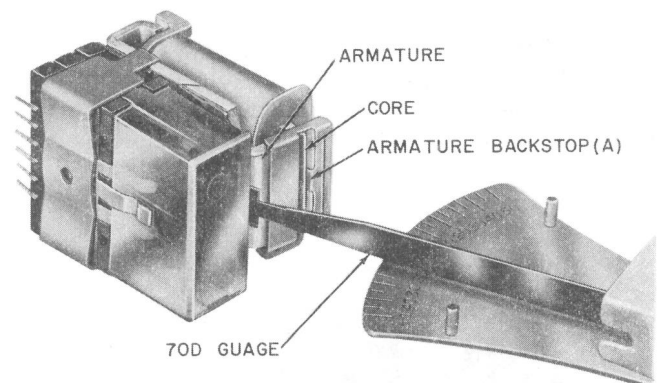
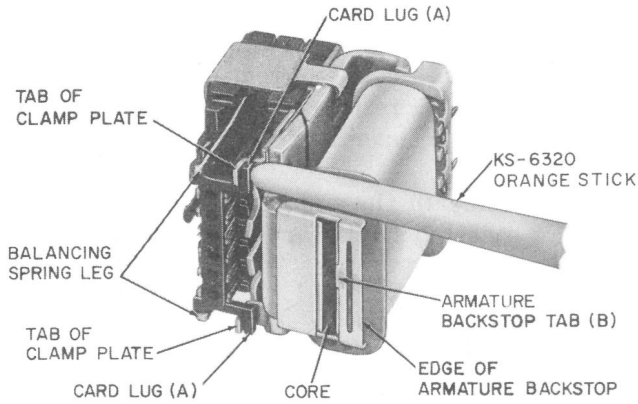

Fig. 4—Measuring Armature Back Tension
Fig. 5—Checking Balancing Spring
2.05 Armature Back Tension Fig. 4(A)
Use the 70D gauge, as shown in Fig. 4, applied at the center of the armature in front of the clamp plate shown in Fig. 5. Care shall be taken that the reed of the gauge does not touch the cover.
2.06 Balancing Spring Tension [Fig. 5(A) and (B)]: With the relay in the unoperated position, the combined tension of the balancing spring legs shall be sufficient to hold the card lugs against the outer tabs of the clamp plate and the armature backstop tab against the core.
toward the core (see Fig. 5) and then alternately to each card lug toward its associated clamp plate tab. The requirement is met if there is no observable movement of the armature backstop tab with respect to the core and no observable movement of either card lug with respect to its associated clamp plate tab.